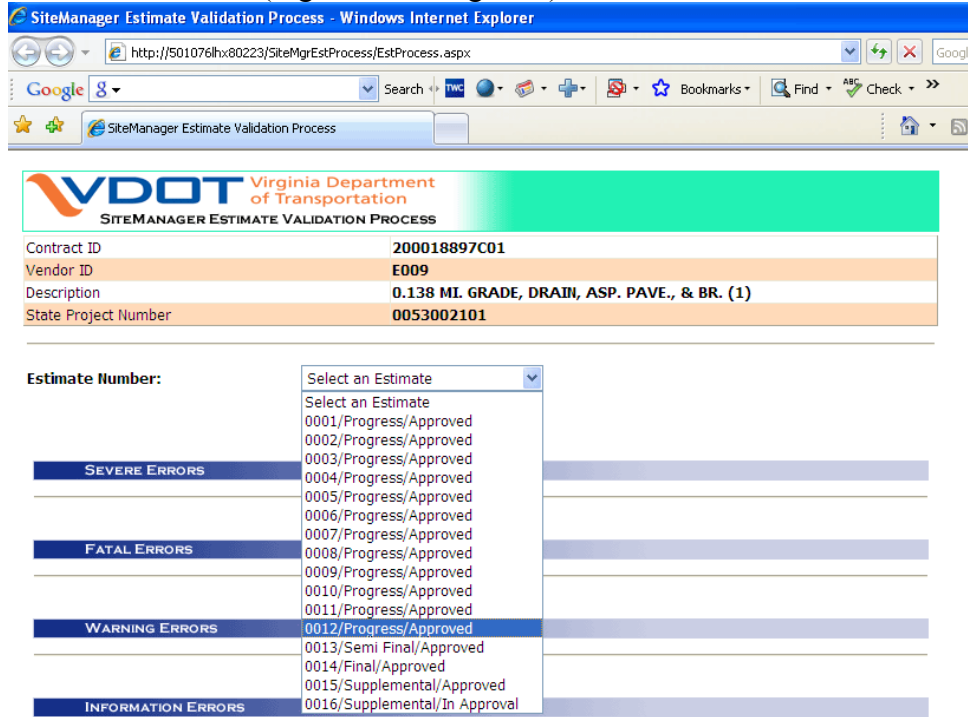
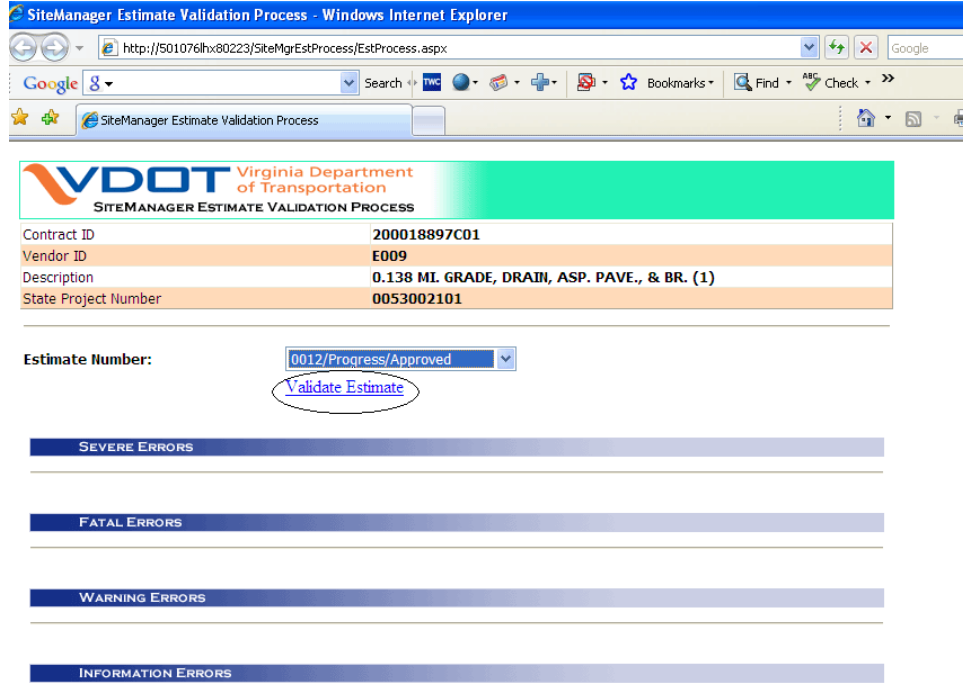

Figure 3
Figure 4
Step 5: Select the Estimate Number from the dropdown list and click on **Validate Estimate** (Figure 3 and Figure 4)